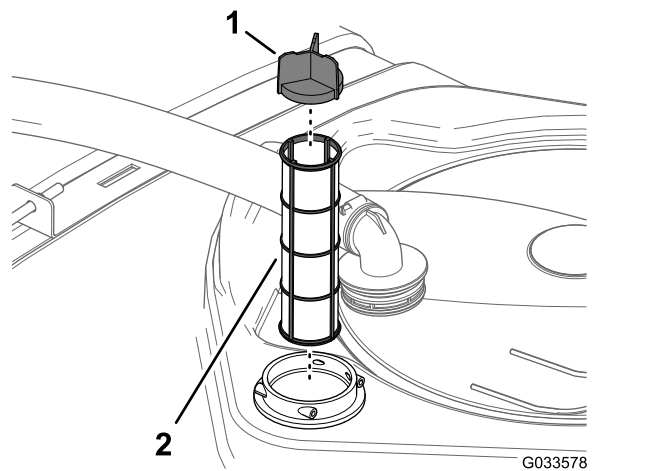

**Figure 28**
2. At the top of the sprayer tank, remove the retainer that secures the hose fitting attached to the large hose from the filter housing (Figure 28).
3. Remove the hose and hose fitting from the filter housing (Figure 28).